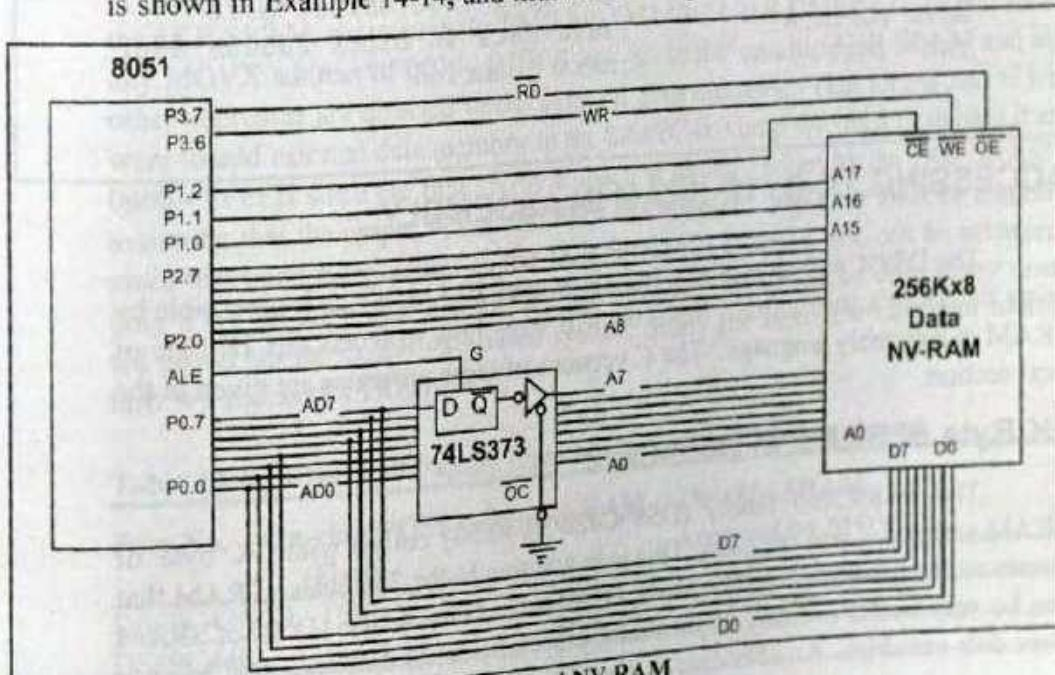

Figure 14-18. 8051 Accessing 256Kx8 External NV-RAM
In some applications we need a large amount (256K bytes, for example) of memory to store data. However, the 8051 can support only 64K bytes of external data memory since DPTR is 16-bit. To solve this problem, we connect A0 - A15 of the 8051 directly to the external memory's A0 - A15 pins, and use some of the P1 pins to access the 64K-byte blocks inside the single 256Kx8 memory chip. This is shown in Example 14-14, and illustrated in Figure 14-18.
- (a) The 256Kx8 NV-RAM has 18 address pins (A0 - A17) and 8 data lines. As shown in Figure 14-18, A0 - A15 go directly to the memory chip while A16 and A17 are controlled by P1.0 and P1.1, respectively. Also notice that chip select of external RAM is connected to P1.2 of the 8051.